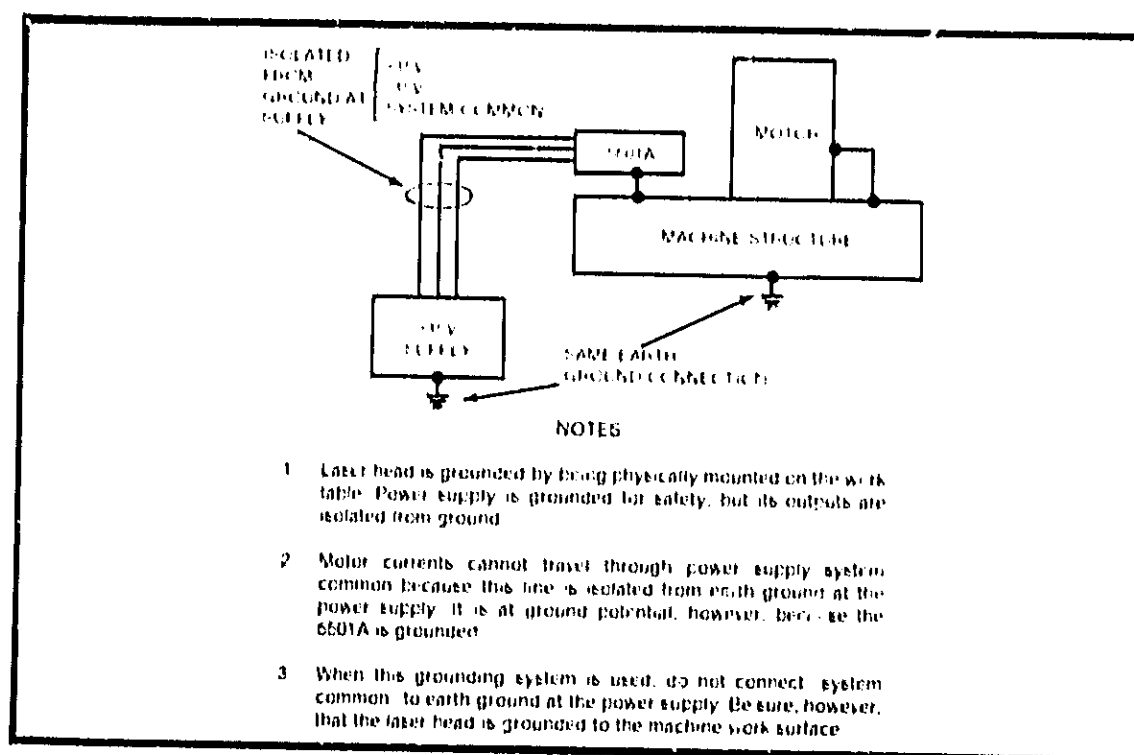

Figure 5-1. AC Power Grounding
- a. A system can be interconnected so that an electrical shock hazard exists. External parts of various system components can be at different electrical potentials due to incomplete system grounding. (See Figure 5-1).